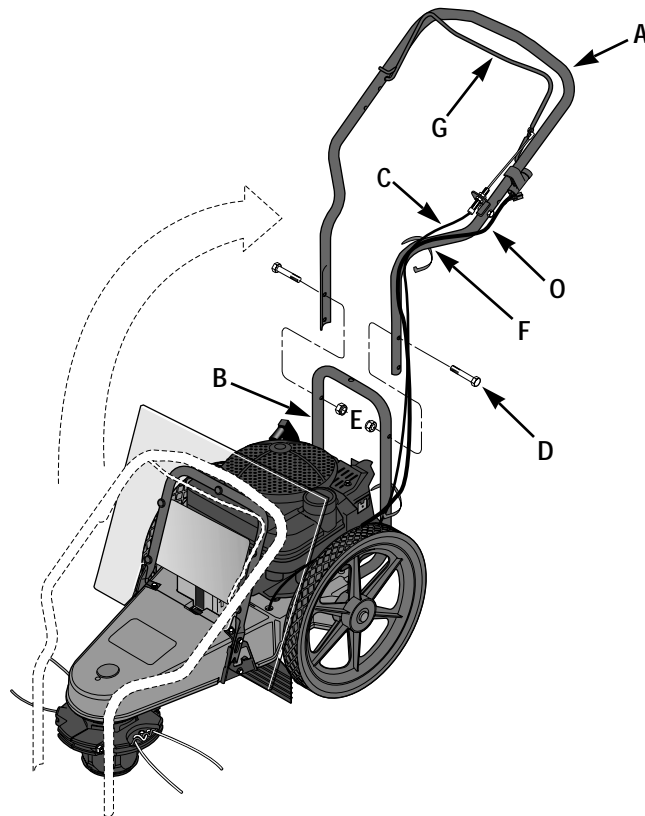

Figure 2-2: Handlebar installation (electric start model shown).
1. Cut the plastic tie and remove the tape that secures the control bail (G, Figure 2-2) to the handlebar (A).
2. Carefully lift the handlebars (A, Figure 2-2) to rear of the unit and align the handlebar legs with the handlebar support bracket (B).
3. Route the trimmer head control cable (C, Figure 2-2) to the outside of the handlebar. On electric start models, also route the electrical wire harness (O) to the outside of the handlebar.
4. Select the low or high height setting holes in the handlebar legs and attach the legs with the two 5/16-18 x 2 hex hd. screws (D) and 5/16-18 locknuts (E) from the hardware bag.
5. Use two cable ties (F, Figure 2-2) to secure the trimmer head control cable (C) and the electrical wiring harness (O) to the handlebar at the locations shown.